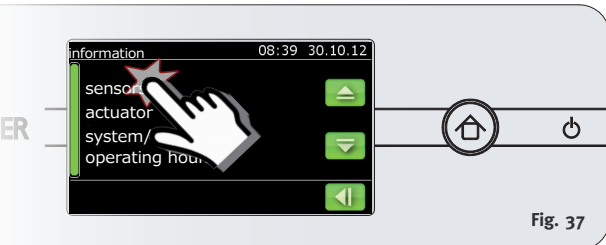

Fig. 37
1. Select Information --> Sensors in the main menu (Fig. 37).